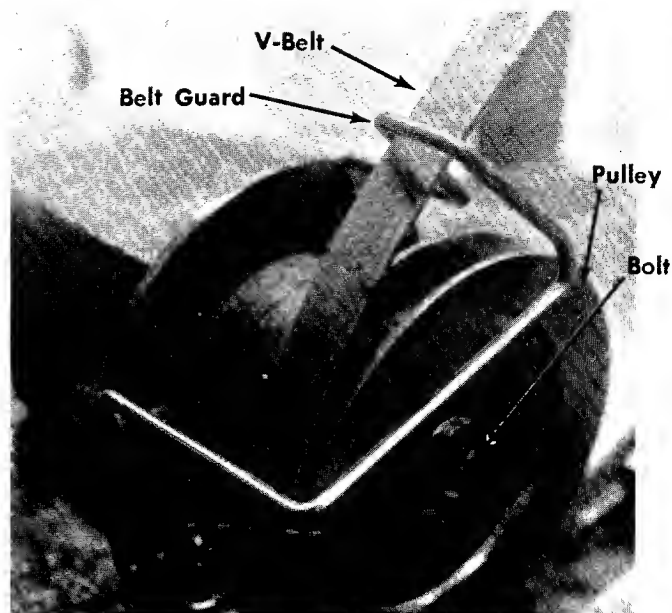

FIGURE 32. DECK DRIVE BELT
- Step 1. Remove the belt guard over the belt. See figures 32 and 33.